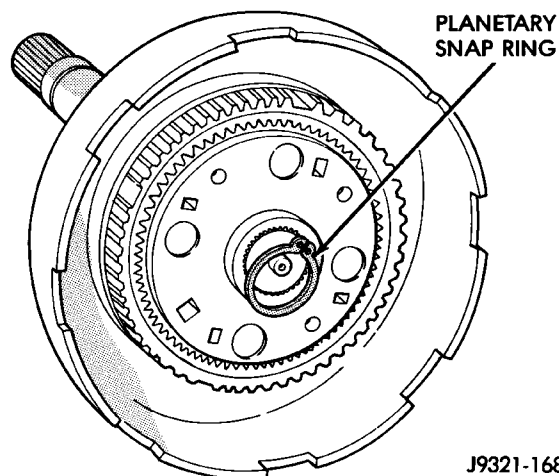

Fig. 173 Removing Planetary Snap Ring
(1) Remove planetary snap ring from intermediate shaft (Fig. 173). Discard snap ring as it is not reusable.